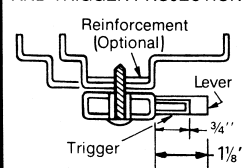

FIG. 6
- 297C Carry-Open-Bar** is available. See Figure 6. Locate holes as shown on inactive door. Drill 3/8" holes for sex bolts.